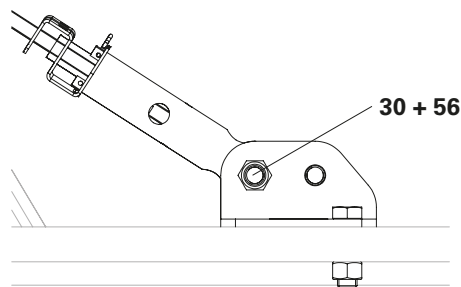

Fig. C7.04a
4. Attach 1x clamping unit with Articulated Spanner DW15 (**108**) to the H-Load Connector (**40**) using bolts ISO 4014 M20 x 90 (**30**) and nuts ISO 4032 M20 (**56**). (Fig. C7.04a)